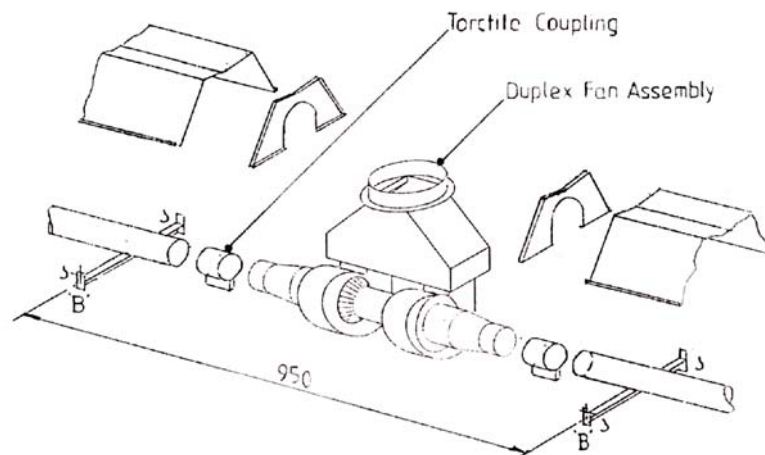

Fig. 12
- 4.2.9 Place one Torctite Coupling over the open end of each Radiant Tube, ensuring that they engage fully (up to the stop). Assemble the Duplex Fan Assembly to the Radiant Tubes, ensuring that it engages fully into each Torctite Coupling (up to the stops) and has the exhaust outlet positioned to suit the flue requirement, ie. either vertical or horizontal to either side. Tighten the screws of the Torctite Coupling to secure the Duplex Fan Assembly to the two Radiant Tubes, taking care to support the Duplex Fan Assembly in line with the axis of the tubes. (see Fig. 12)